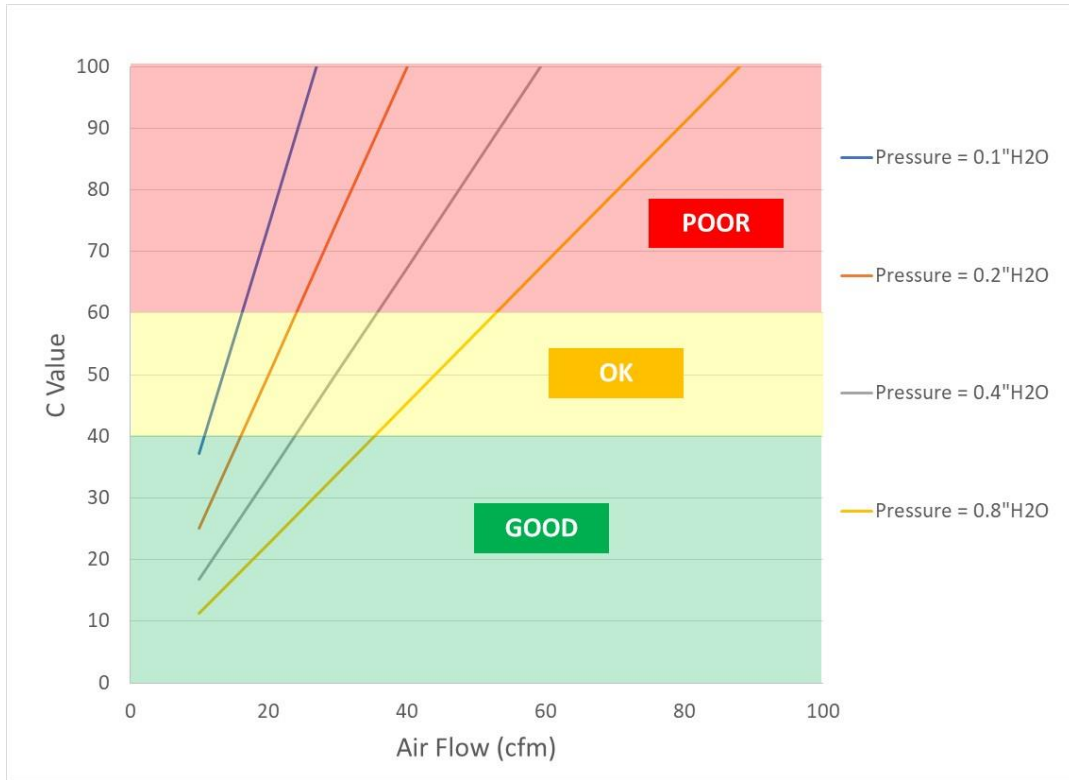

Figure 1 Duct leakage test C value plot based on air flow (cfm) and pressure ("H₂O).
- c. Figure 1 can be used to determine the leakage C value directly from air flow (cfm) and duct pressure (“H₂O) measurements